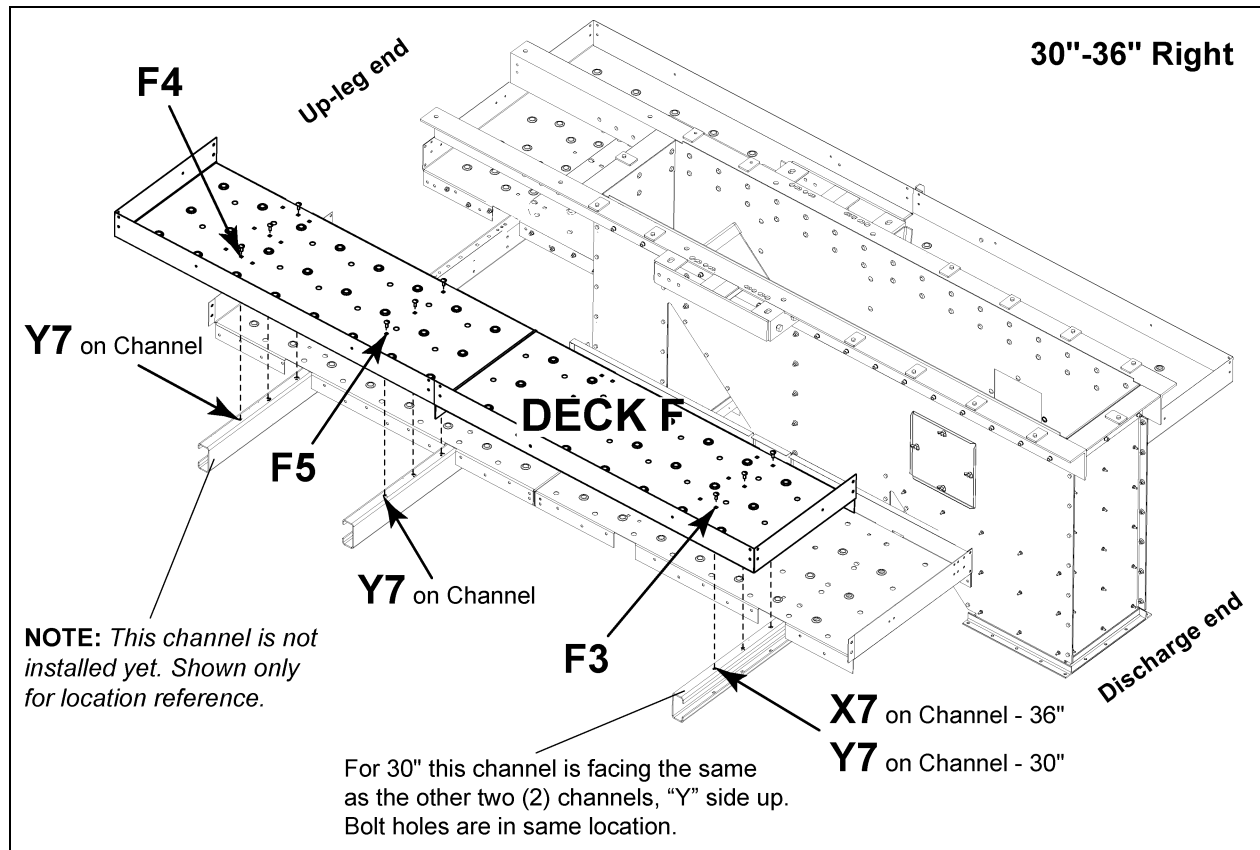

Figure 8L Deck F to Cross Deck Support Channel
1. Locate pre-assembled Deck F. This deck consists of two (2) planks.
2. Orient Deck F with hole **F3** at the discharge end of the lower head and **F5** at the up-leg end. (See Figure 8L.)
- a. At the **drive side** - channel hole **Y7** on the cross deck support channel to deck hole **F4**. (See Figure 8L on Page 60.)